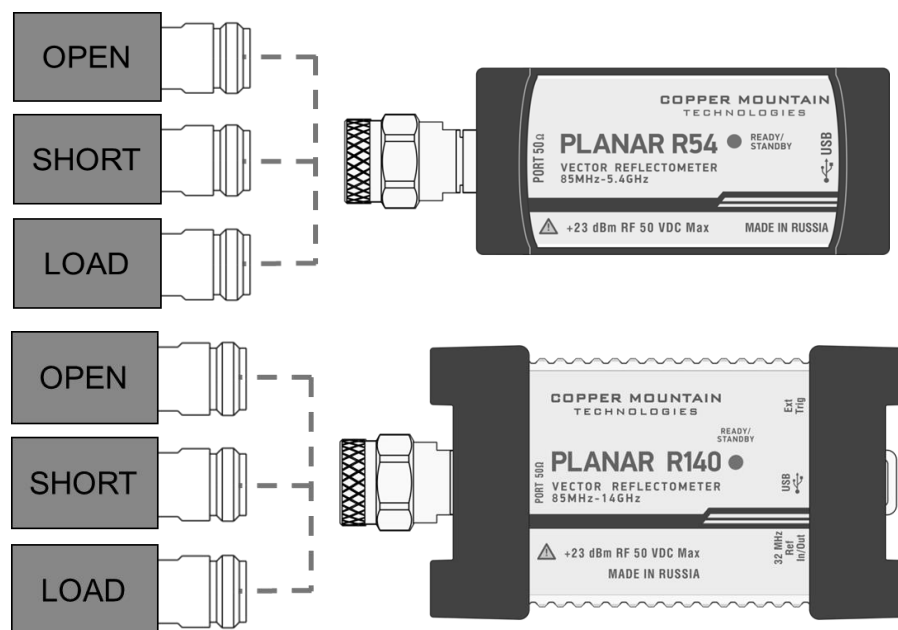

Figure 4. Measurement setup for the reflection coefficient magnitude and phase accuracy test
6.3.2.4 Perform full one-port calibration using the test (user) calibration kit in accordance with the Reflectometer's operating manual. Refer to the measurement setup in Figure 4.